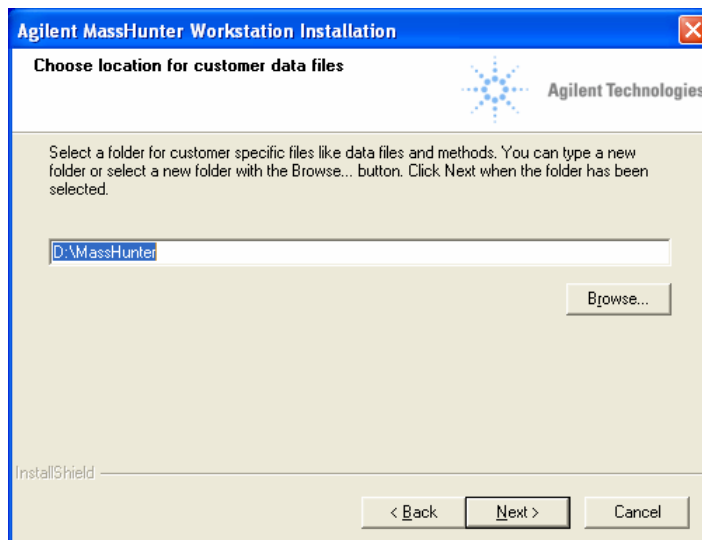

Figure 20 Choose location for customer data files screen
- In the Choose location for customer data files screen, check that the default of D:\MassHunter is displayed in the text box, and then click **Next**. See Figure 20.